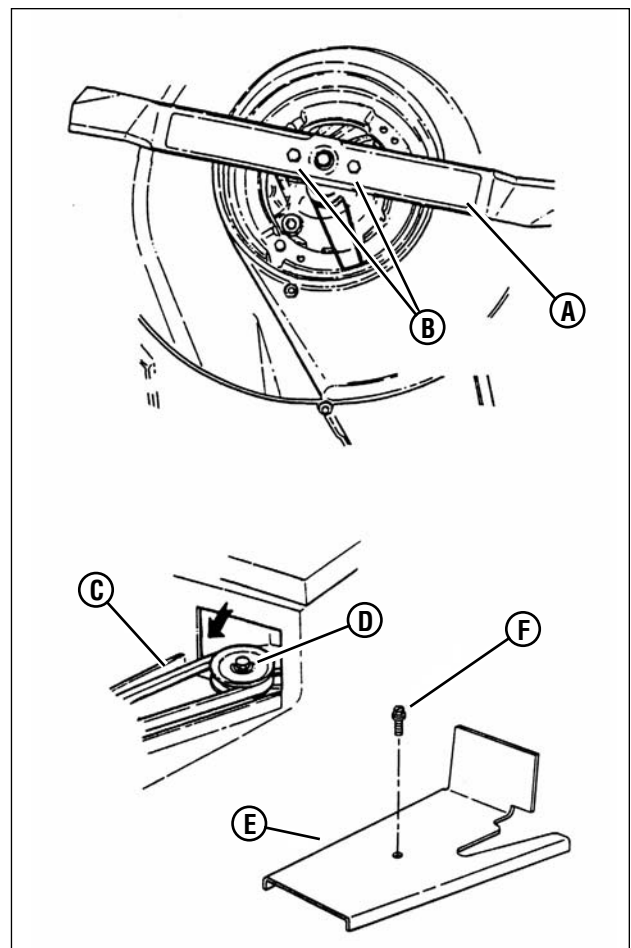

Figure 15: Replacing the drive belt
2. Remove the retaining screw (F, Figure 15) that secures the belt cover (E). Remove the belt cover. See Figure 4.5
3. Disconnect the belt (C) from the transmission pulley (D).
5. Remove the retaining bolts and nuts (B) that secure the blade (A). Remove the blade.